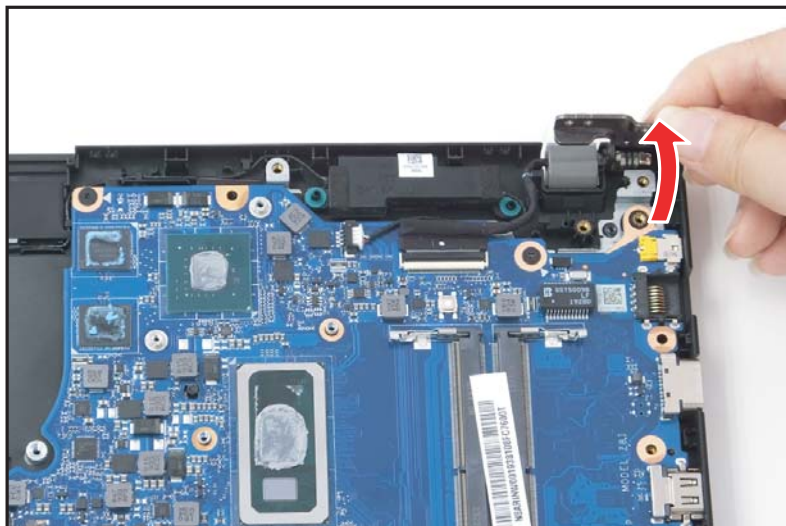

Figure 1-37. Mainboard Removal
3. Close the top assembly and lift the right side of LCD hinge until it is fully extended (Figure 1-37).